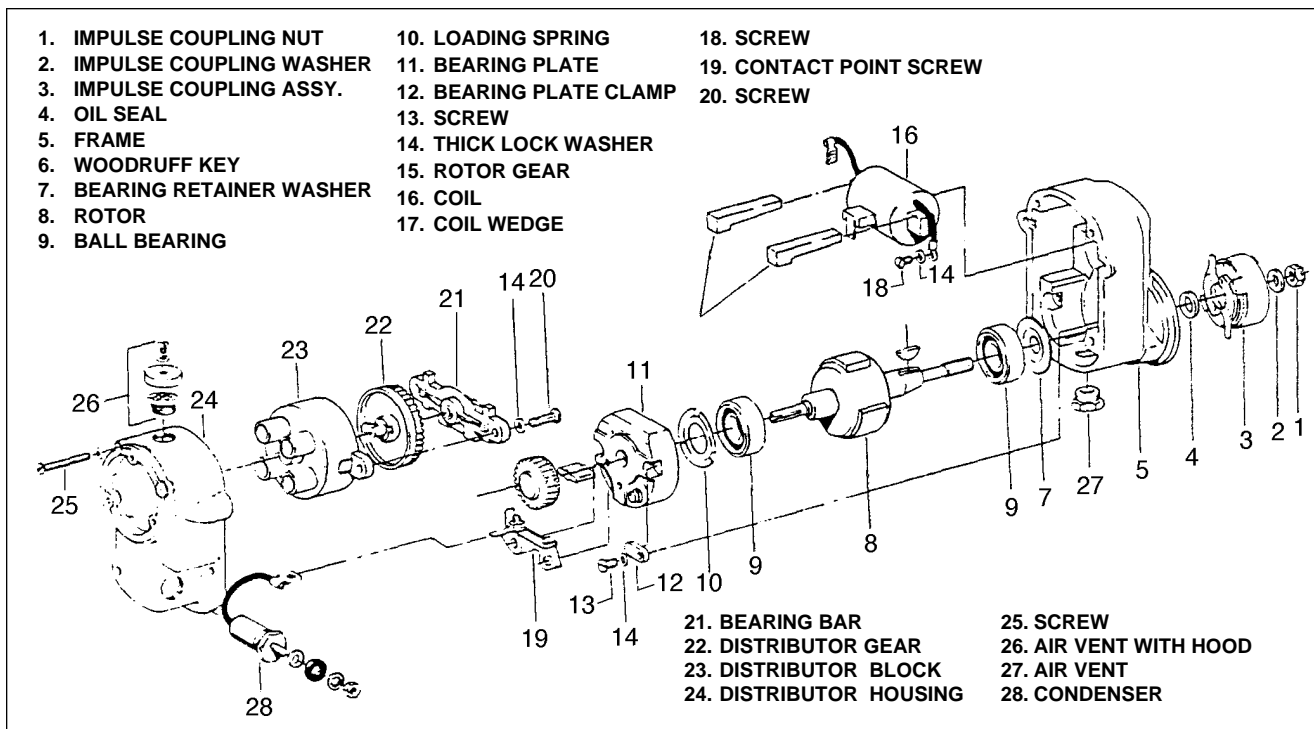

Figure 8-7. Exploded View of 4200/4300 Series Magneto
8-24. DISASSEMBLY OF SLICK 4200/4300 SERIES MAGNETOS. (Refer to Figure 8-7 and latest revision of Slick Service Bulletin No. SB2-88A.)
B. Insert the T-118 timing pin (refer to Figure 8-7) in L or R hole in the distributor block. Turn rotor opposite the rotation of magneto until the pin engages the gear and install magneto and gasket on the mounting pad of the accessory housing and remove the timing pin. Tighten the bolts finger tight.